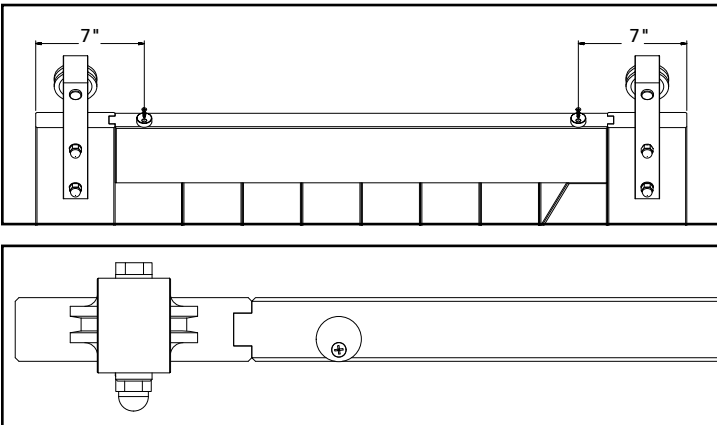

Figure 2. Pre-drilling Anti-Jump Disk
1. Position the center of the disks as seen in Figure 2.
4. Secure with (2) #8 X 3/4" wood screws (keep anti-jump disk loose enough for future rotation; to be tightened in later steps).